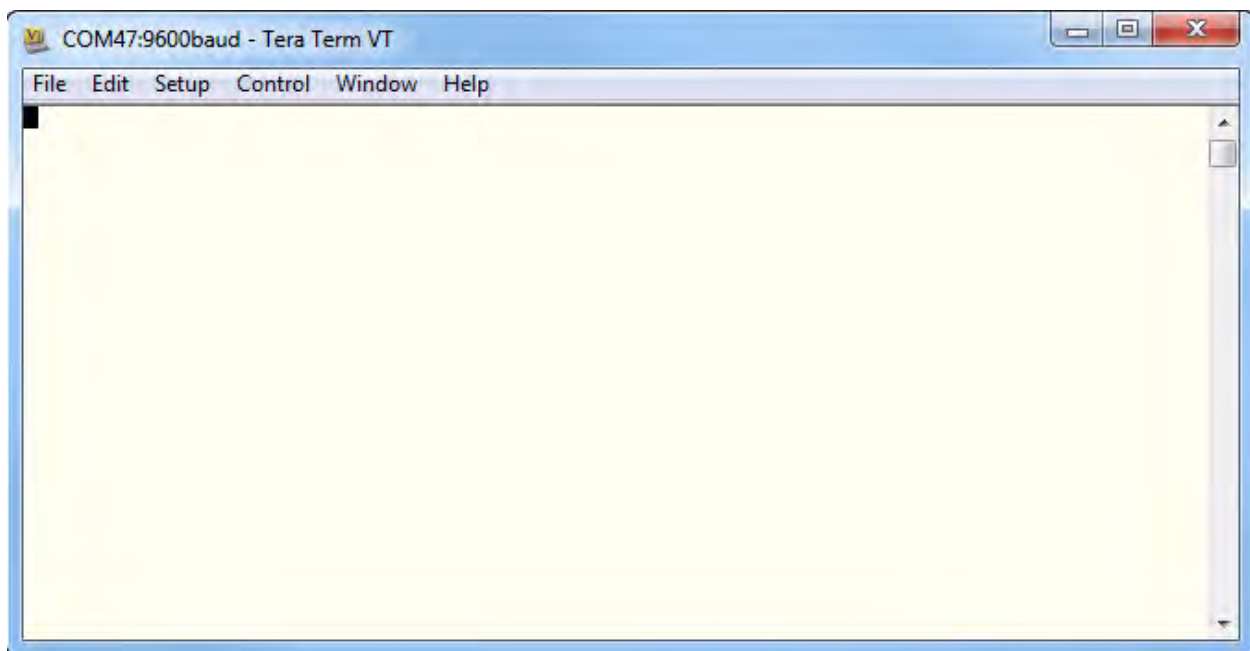

Figure 8. Tera Term Initial Dialog
2. Click **OK**. The initial Tera Term dialog appears, as shown in Figure 8.